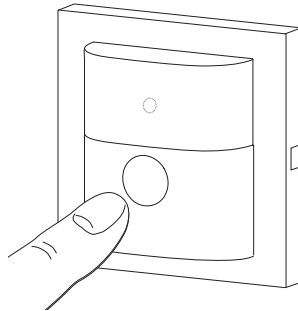

Figure 27: Scene call-up
- Switch on scene (in this example "Scene TV") by briefly pressing the button (Bild 27, A-1)